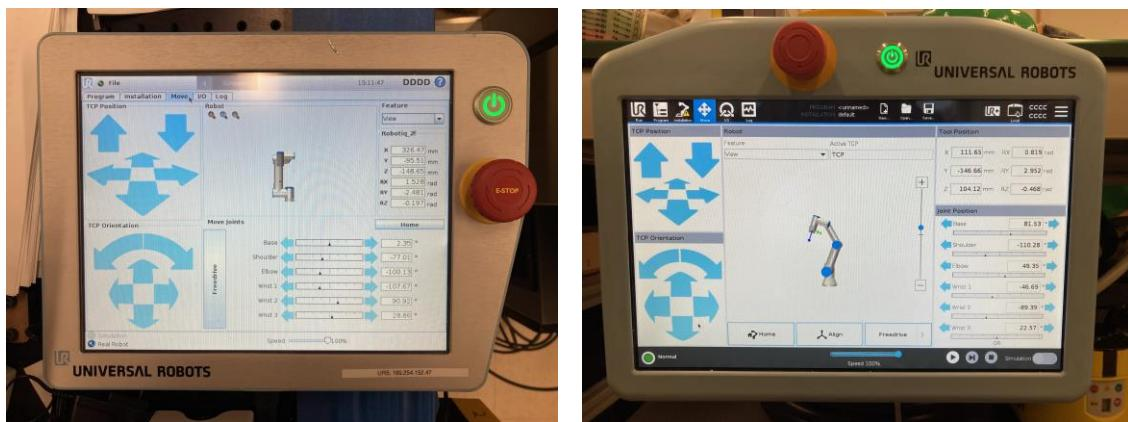

Figure 8: The Move screen has similar button layouts for the CB (left) and E-Series teach pendants.
1. From the main menu, navigate to the “Move” screen (Fig. 8)